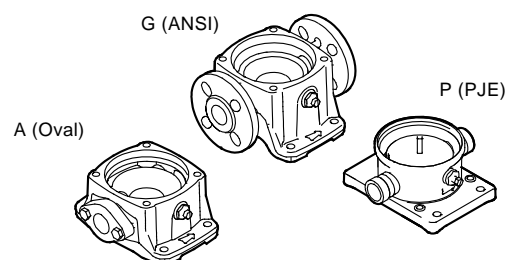

Fig. 15 Pump connections
- Oval flange (NPT) - fig. 15
- ANSI flange - fig. 15
- PJE coupling - fig. 15